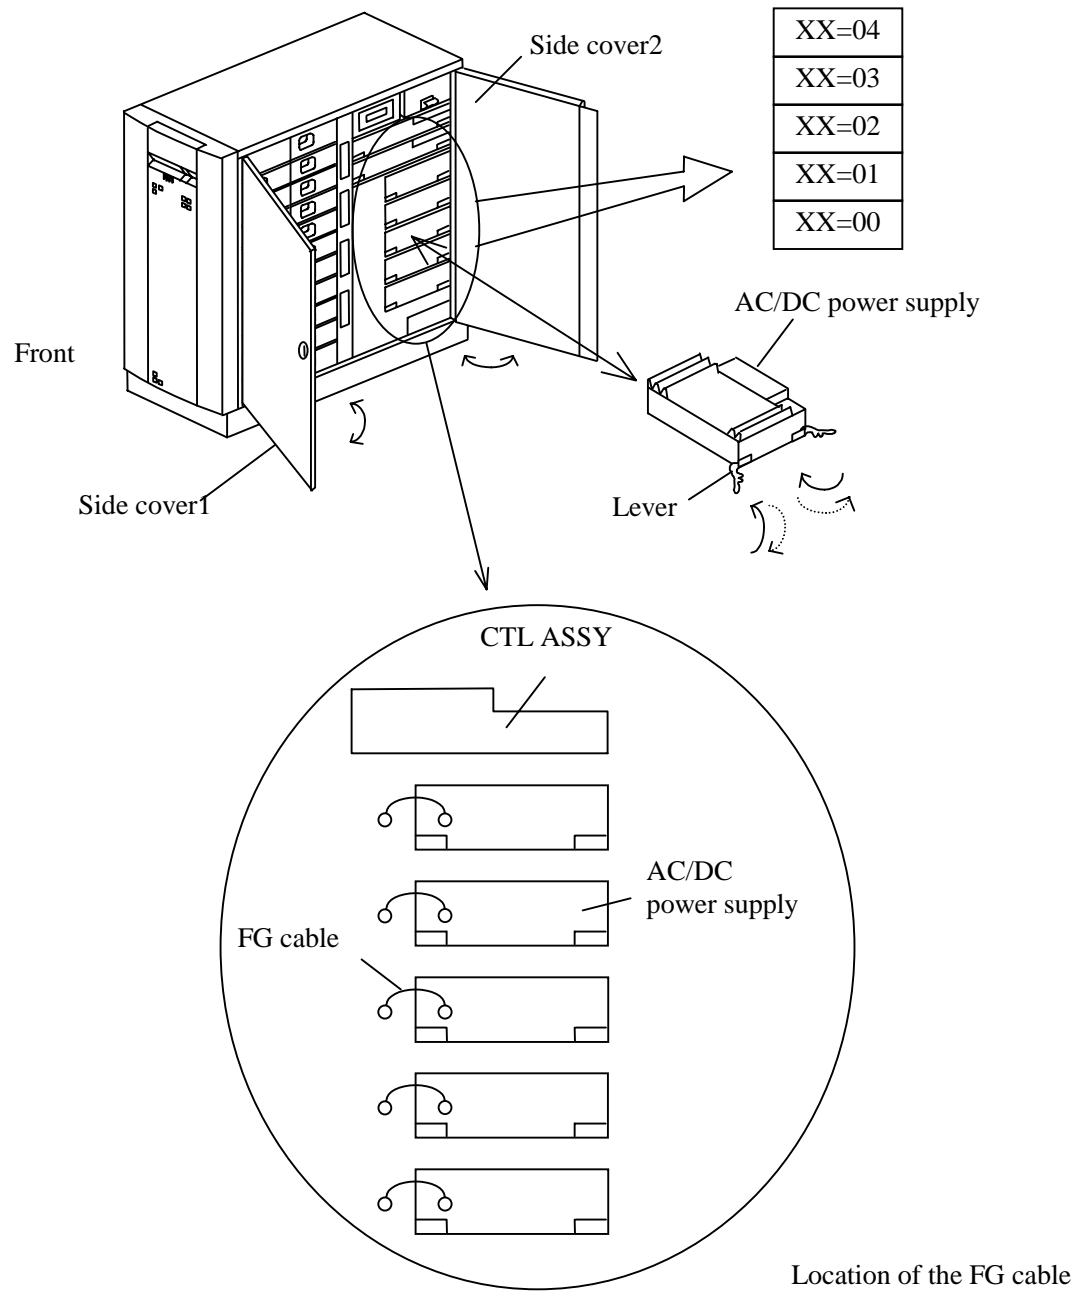

Figure 4.4.4 Setting AC/DC power supply
(2) Setting AC/DC power supply (See Figure 4.4.4)